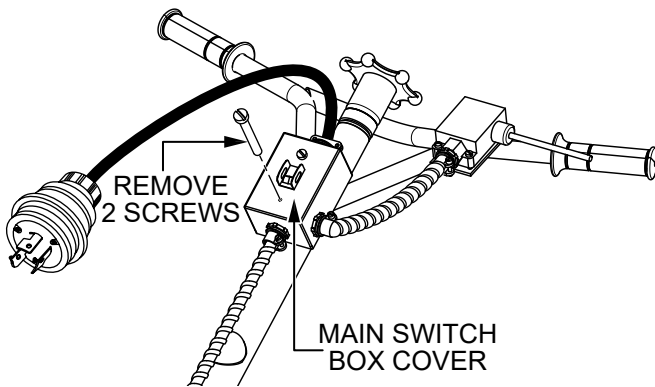

Figure 2. Remove Main Switch Box Cover
1. Remove the two screws securing the switch box cover to the front of the main switch box (Figure 2). Keep the screws for later.